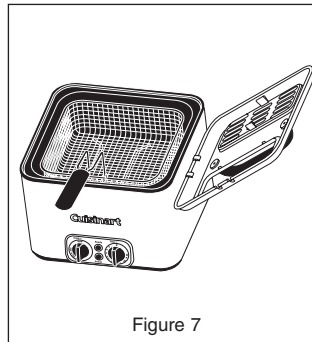

Figure 7
7. Once the food is done, open the lid and hang it on the lid hook (Fig. 7), then raise the basket and hook it on the basket hook to drain oil.